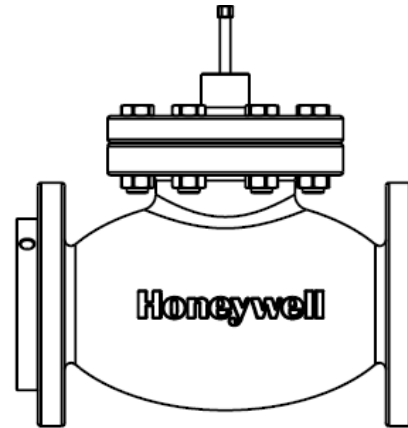

Fig. 1. Control valve and pre-sensor installation
1. Control valve and pre-sensor are installed along with the installation of the system pipeline equipment, see Fig. 1, while the pre-sensor is enclosed in the package of the super actuator component;